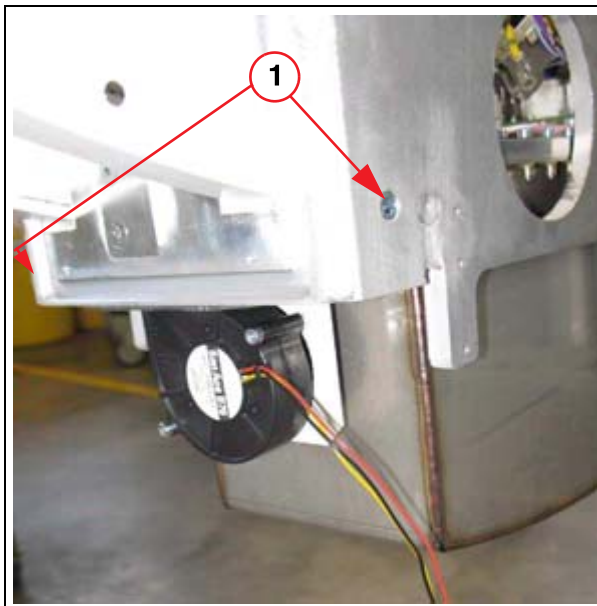

Fig. 17: Fan\_Single\_Tank
4. Remove the 2 ISK screws from the fan housing (1/Fig. 17 / p. 37).